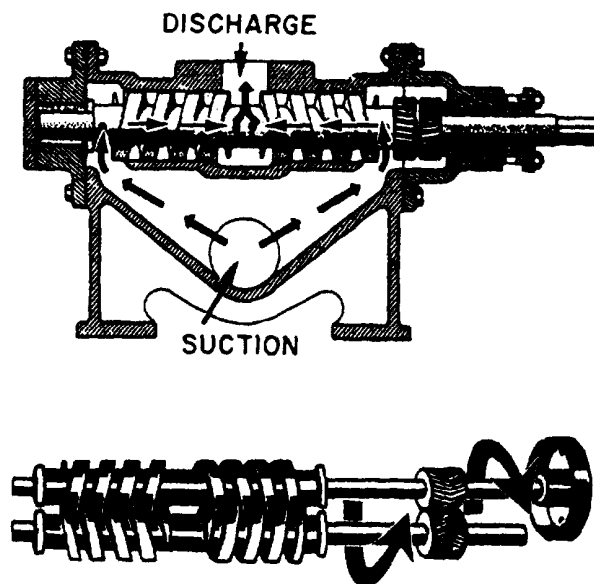

Figure 7-10.—Double-screw, low-pitch pump.
**SCREW PUMPS.**—Several different types of screw pumps exist. The differences between the various types are the number of intermeshing screws and the pitch of the screws. Figure 7-10 shows a double-screw, low-pitch pump.